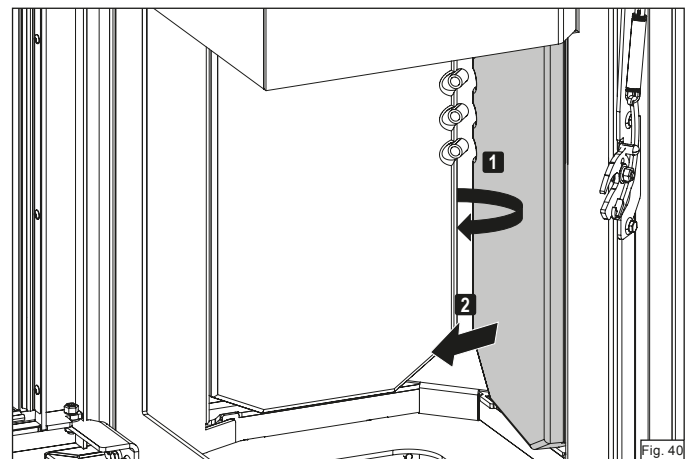

Fig. 40
- ▶ Turn the right firebrick **1** and remove from the firebox **2** (Figure 40).